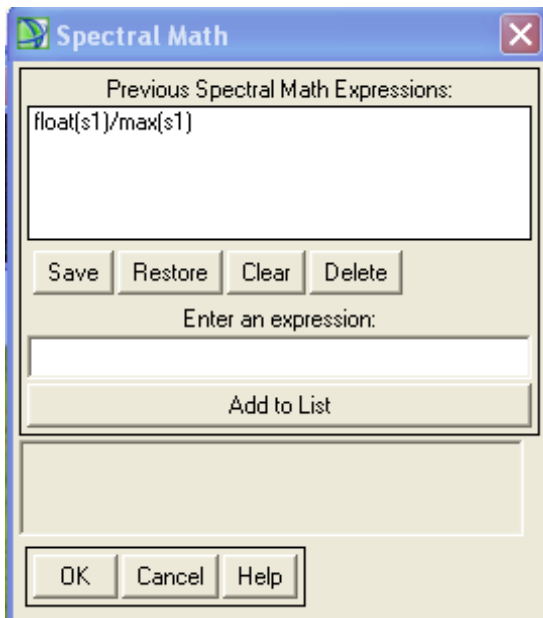

Figure 3. Spectral Math input window
- Now we create a Correction Spectrum from the spectrum of the lamp. In the main ENVI menu select Basic Tools > Spectral Math. Click the Restore button and then click on the file correction.exp. This file has been installed in the folder named hook, which is the first folder opened by the Restore button. The expression "float(s1)/max(s1)" opens in the Expressions list of the Spectral Math window (see Figure 3). Click on the expression and click OK.